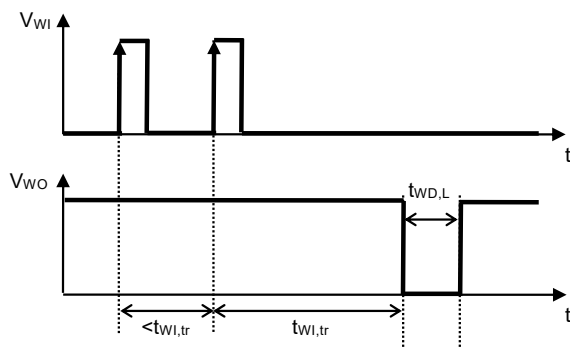

Figure 11 Watchdog Trigger Time
*1. The time when the WO pin continues "L" after the watchdog timer detects a time-out or double-pulse (Refer to **Figure 11**). This value changes according to C_{DLY} .
*2. The time from when the watchdog timer initiates the detection of a trigger signal to when a time-out is detected and the WO pin output changes to "L" (Refer to **Figure 11**). This value changes according to C_{DLY} .